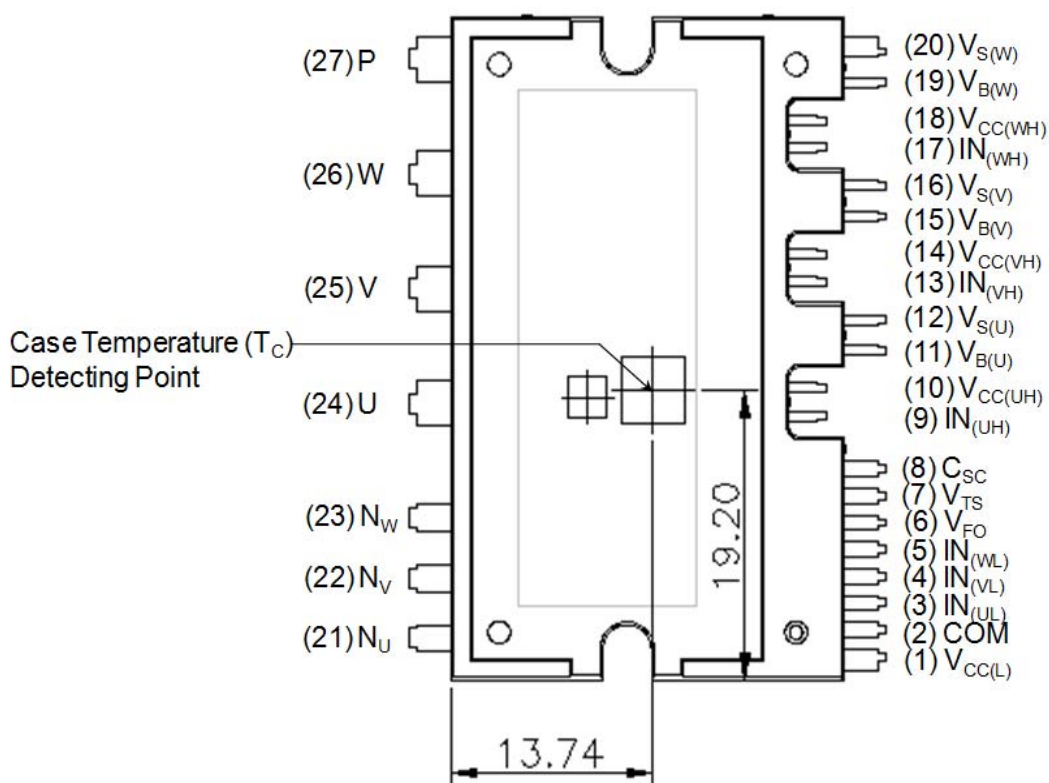

Figure 2. Top View
- For the measurement point of case temperature ( $T_C$ ), please refer to Figure 2.